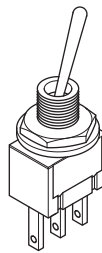

Fig. 9.1
- 9 Fig 9.1 shows a toggle switch.